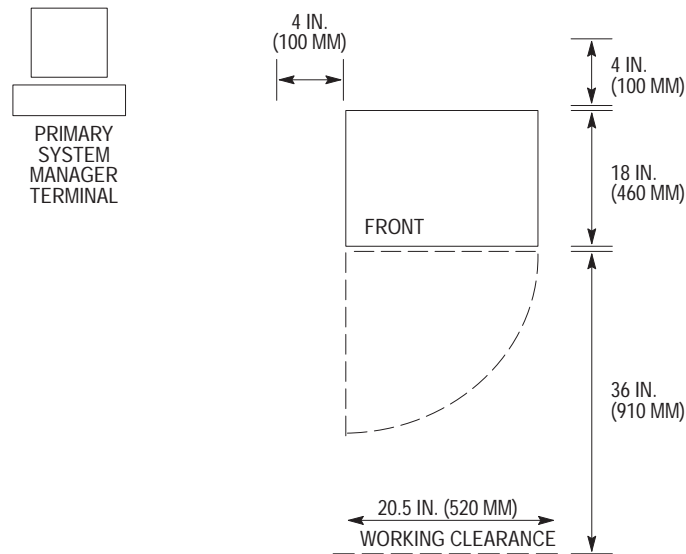

Figure 3-3. Required Clearances for the Cabinet.
- ☐ Allow sufficient clearance for service personnel to obtain access around the server. Figure 3-3 shows the allowances for the work space required around the cabinet. Enough space is required for the door at the front of the cabinet to be opened, plus additional clearance for working and aisle space. Allow enough space on the left side and rear, so that you can access the power switch.